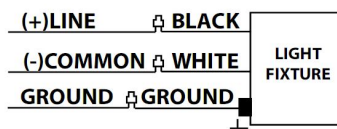

Fig.2
4. Complete the wiring to the power source and ground. (Fig .2 & 3)
Universal voltage driver permits operation at 120V thru 277V, 50 or 60 Hz. Units ordered with (/480V) suffix are 480V, 60Hz. For Non-Dimming, follow the wiring directions as in Fig. 2.